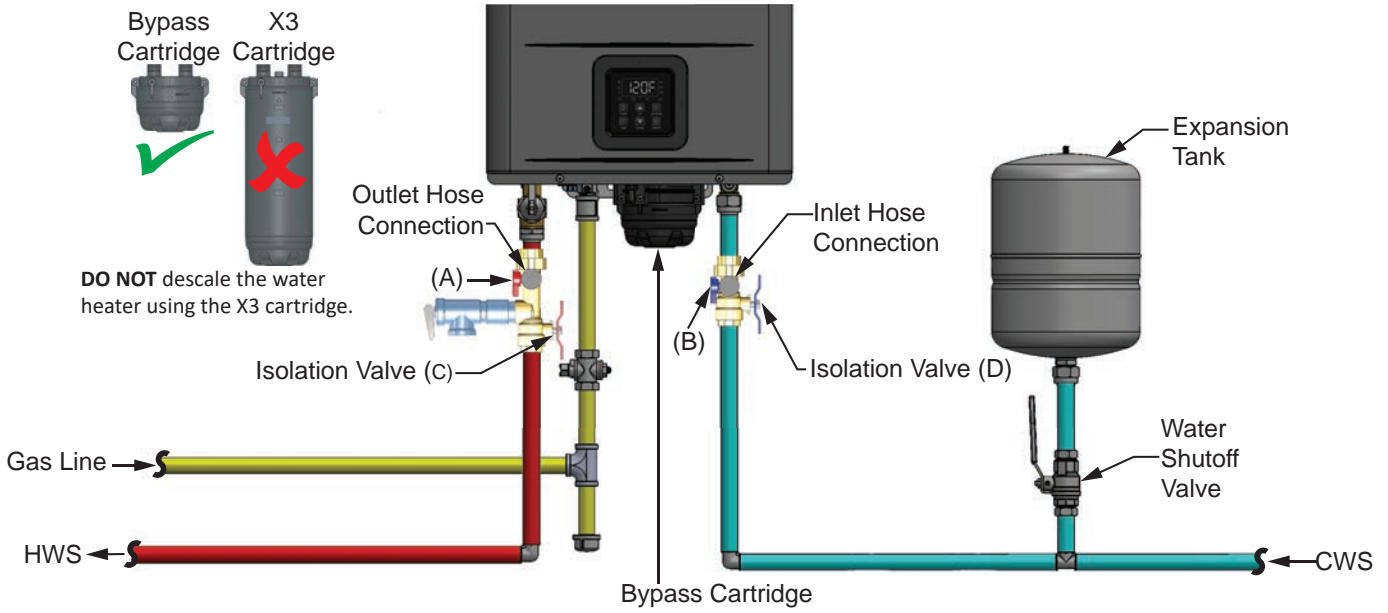

Figure 15 - Descaling the water heater
2. Pour the white vinegar (3 gallons) into the five gallon bucket. See Figure 15.
3. Connect inlet hose to the transfer pump's discharge outlet. Connect its opposite end to the inlet hose connection at the cold water inlet's isolation valve. See Figure 15.
5. Connect the second hose to the outlet hose connection at the hot water outlet. Place its loose end into the bucket with the vinegar. See Figure 15.
6. Open the hot and cold service valves (A & B). See Figure 15.
9. Close service valves A & B. See Figure 15.